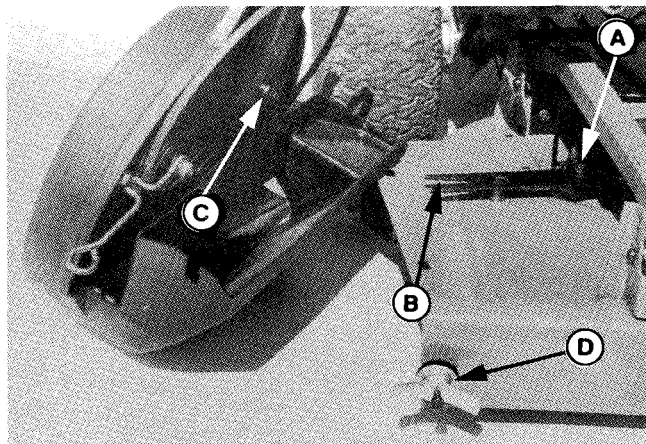

Figure 9.
- a. The small notch in blower arm (not shown) will be placed onto top of deck strap spacer (A, figure 9).
- b. The notch in deck strap (B) will accept blower arm spacer (C).
- c. Slide the blower into position and tighten the wing nut (D).